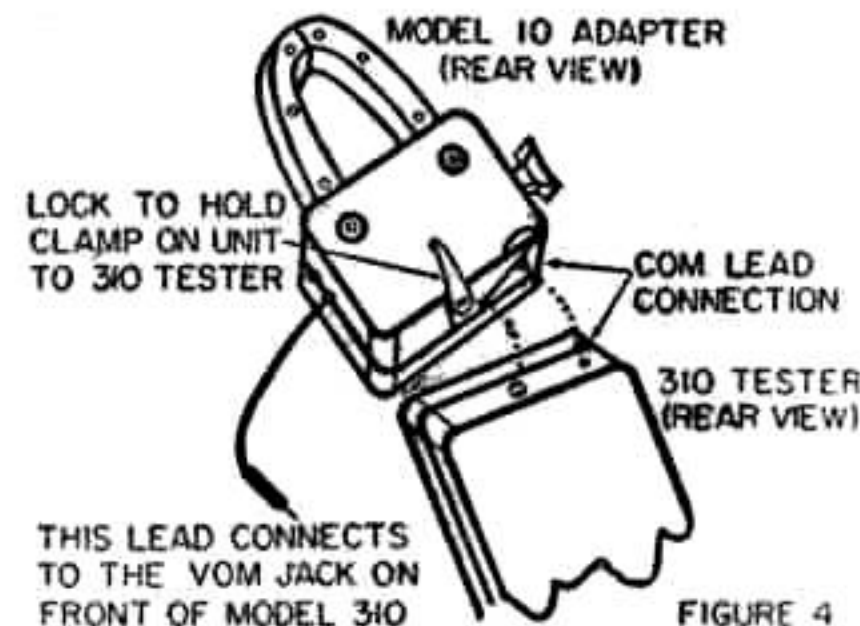

FIGURE 4
(1) Attach the Model 10-C to Model 310-C by inserting the lever-pin while in the position shown in figure 4, in the slotted insert, also the plug in the common lead connection, on the upper edge of Model 310-C VOM. Then rotate lever all the way down toward the common lead. The two testers are thus attached and can be quickly removed when it is desired to use the Model 310-C separately.